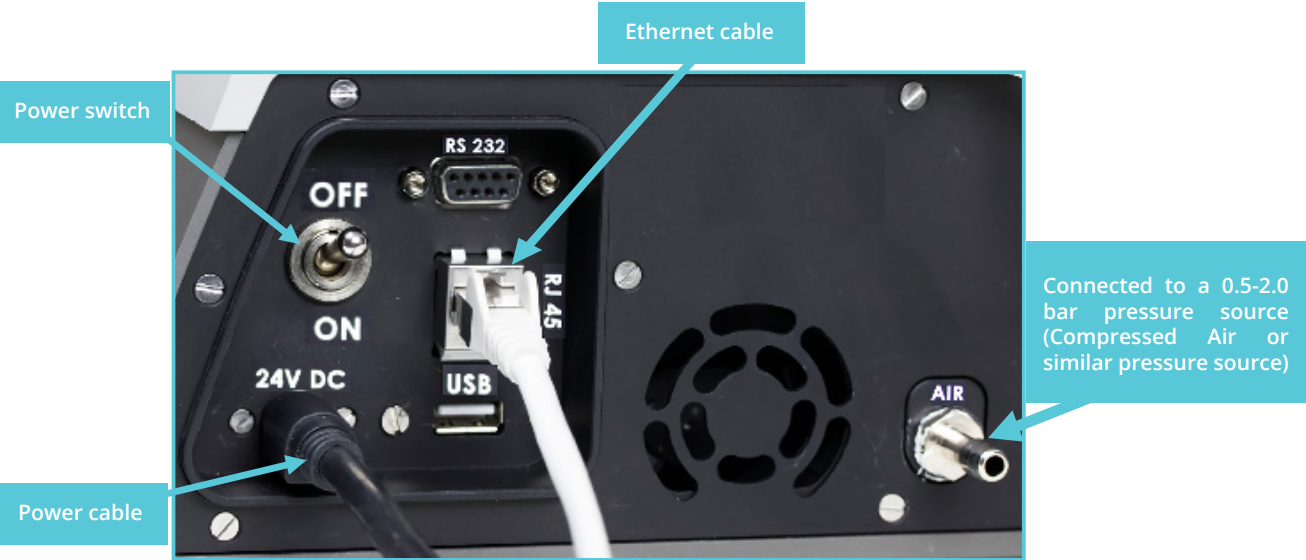

Fig.47.: Connection for a 0.5 – 2.0bar pressure source.
- a. A pressure source has to be connected to the main pressure inlet pipe marked AIR on the MyoHEART system with a pressure source providing pressures between 0.5bar and 2bar (see fig.47.).